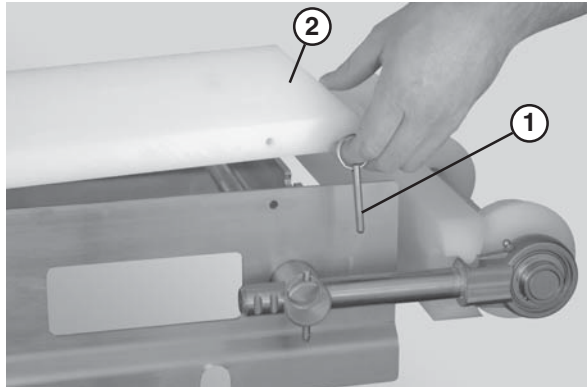

Figure 38
1. Remove the guides, if applicable, by removing the pull pins (**Figure 38, item 1**) that connect the guide (**Figure 38, item 2**) to the frame.